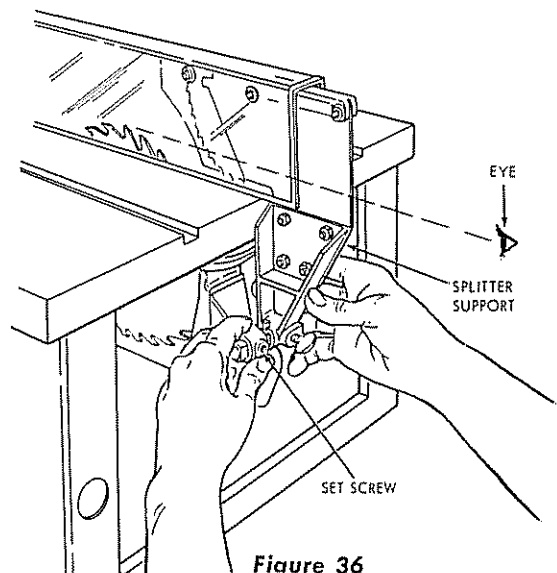
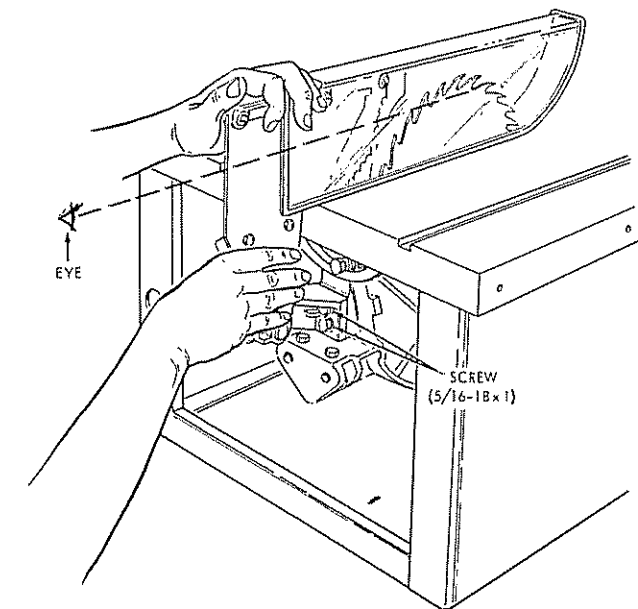

Figure 36
Figure 37
- (4) Slide the splitter rod (attached to splitter support) into the splitter blade bracket until the splitter blade is directly behind the saw blade. (See figure 36.) Do not be concerned if the splitter bar does not align vertically as this will be corrected in the next step. Tighten the socket-head set screw in splitter blade bracket with a 5/32-inch hex-L wrench.
- (5) Grasp the splitter blade with both hands, as shown in figure 37, and by sighting along the splitter blade and saw blade, align the splitter blade vertically with saw blade. Tighten the two 5/16-18 x 1-inch screws to secure the splitter blade bracket to saw cradle. This adjustment may leave the splitter blade slightly to the right or left instead of directly behind the saw blade. If so, loosen the socket-head set screw (figure 36) and slide the splitter support carefully to the left or right until the splitter blade is directly behind the saw blade. It may be necessary to perform the preceding splitter blade alignment alternately several times until perfect alignment is attained.
- (6) Recheck to make sure the following screws are tight:
The socket-head set screw (figure 36) that secures the splitter rod, and the two hex-head
screws (figure 37) that attach the splitter blade bracket to saw cradle. Sight along splitter bar and saw blade again after tightening these screws to make sure alignment was not disturbed.